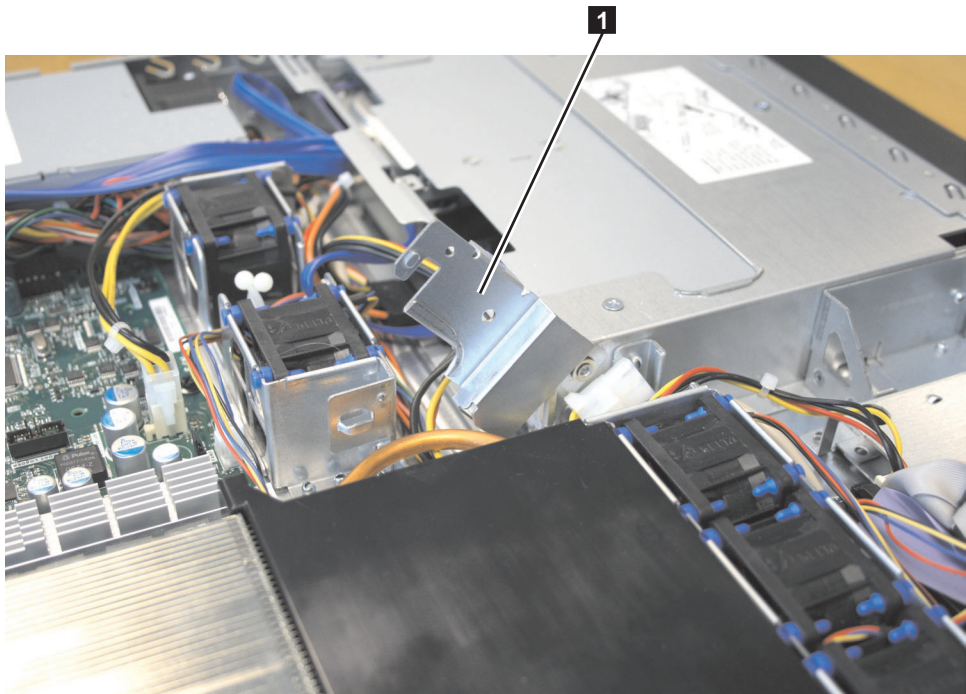

Figure 157. Air deflector for the SAN Volume Controller 2145-8A4 power supply
4. Make sure that the air deflector **1** is in the open position, as shown in Figure 157.